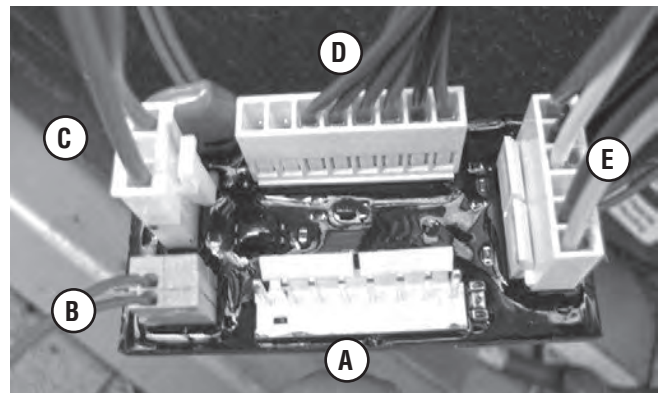

Figure 8
1. Compare your connections with **Figure 8** to confirm proper installation of the harnesses.